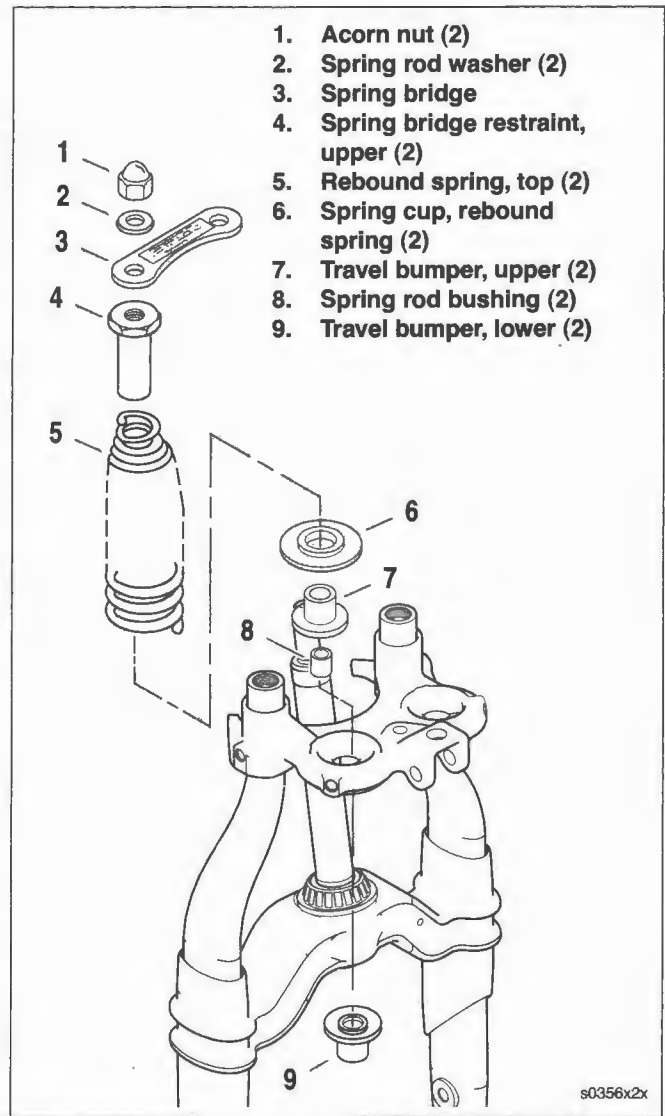

Figure 2-100. Rebound Spring: Assembly
15. See Figure 2-100. Oil bushing (8) and place on spring rod. Slide bushing down until it bottoms in lower rubber travel bumpers (9).
16. Install upper rubber travel bumpers (7) over spring rod and bushing.
17. Install rebound spring cup (6).
18. Install rebound spring (5).
22. See Figure 2-100. Place spring bridge (3) in position. Install washers (2) and acorn nuts (1). Tighten acorn nuts to 30-35 ft-lbs (40.7-47.5 Nm).